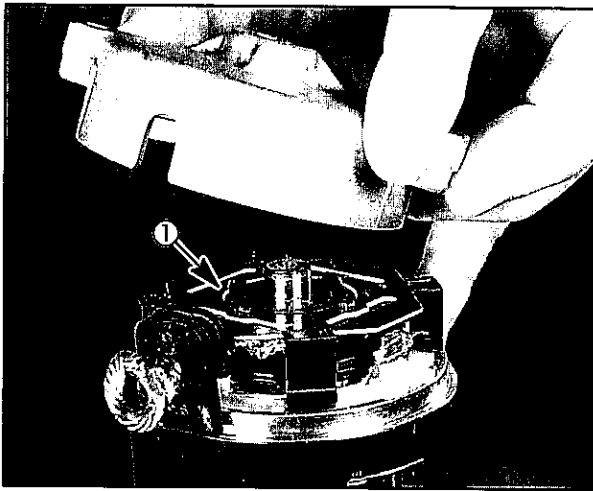

Fig. 31
3. Remove brush end cap, **Fig. 31**.
NOTE: To prevent losing brush springs, do not remove brush retainer (1) until starter housing has been removed from drive end cap, **Fig. 31**.